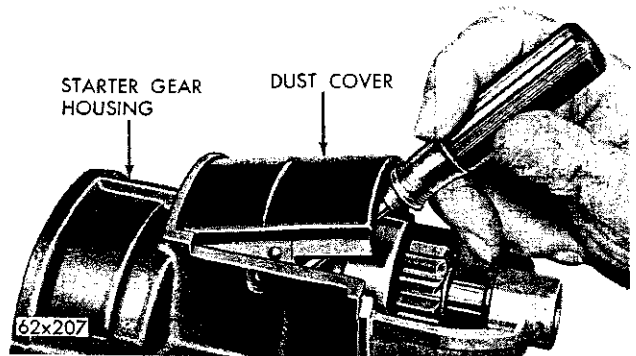

Fig. 28—Removing Dust Cover
- (20) Remove the dust cover from the gear housing (Fig. 28).